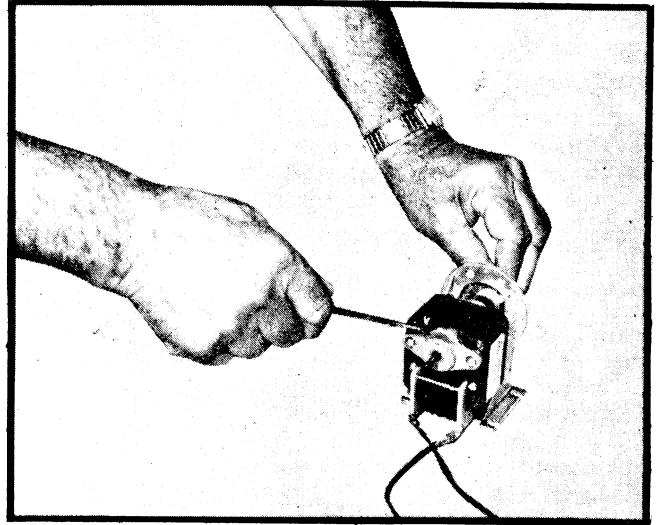

Figure 81
- c. Insert small screw driver, *Figure 81*, between rotor and the field laminations to keep rotor from turning.